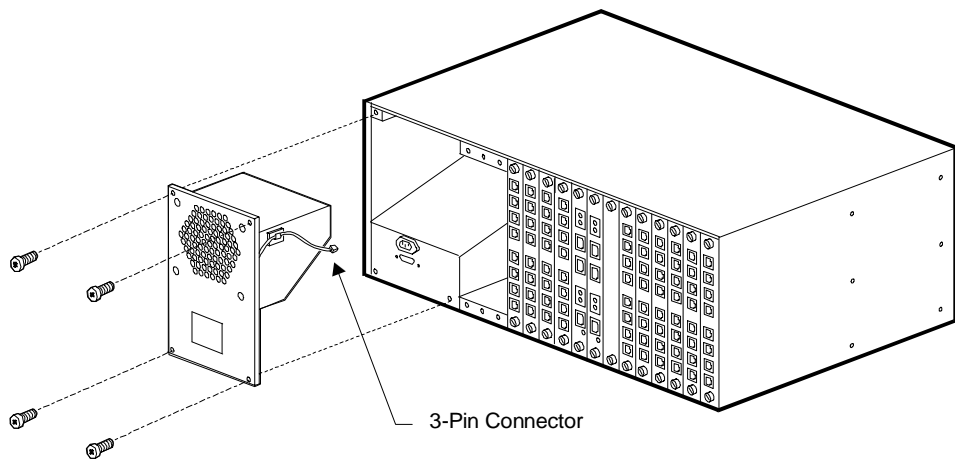

Figure C-1. Removing the 3-Pin Connector and Metal Plate
4. Remove the 3-pin connector end of the fan power cable from the midplane. See Figure C-1.
5. Remove the four screws holding the metal plate protecting the fan assembly. See Figure C-1.
6. Pull the fan housing out of the chassis. See Figure C-1.